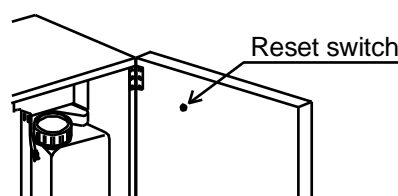

Fig.4
9. After changing, turn the breaker on and wait for about ten second, then press and hold the reset switch till a beep is heard. (See Fig.4.)